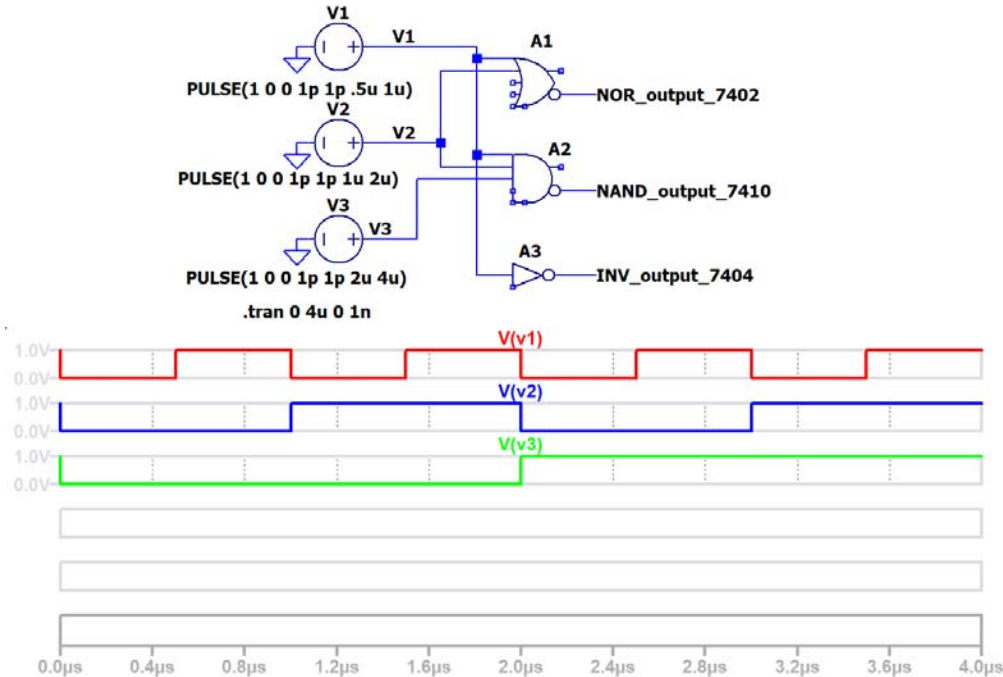

Figure A-5. Simulate the gates circuits
- Create the following circuit (Figure A-5) in *LTspice*. Note that the nodes have been labelled. Using this feature makes it possible to identify the voltages plotted.
- **Include the schematic and the 6 plots in your report.** The 3 voltage traces are shown in Figure A-5 but not the outputs. The unused axis color was lightened figured A-5, you don't need to do this.
- As was done in Part A, figure A-5, you will use the *LTspice* default logic levels of 0V and 1V. A 0V signal will be considered a logic level of 0. A 1V signal will be a logic 1. The real circuits work at higher voltages but using 0 and 1 allows you to think of them as logic levels rather than voltage levels.
- Set up 6 plot planes as was also done for Part A, figure A-5.